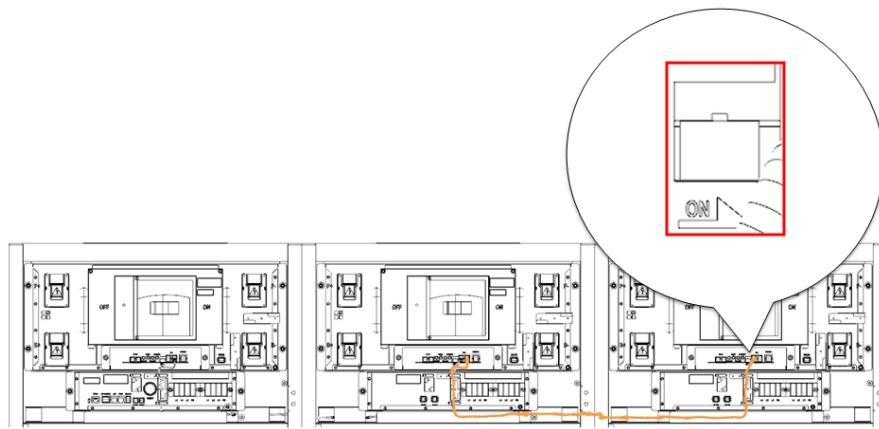

Figure 5-9: Termination resistor setting
2. Check the CAN connections to the SMU. For the rack with the SMPS Assembly Type A, one of the connections must be made to the SMPS Assembly. A termination resistor switch must be turned on in the rack that is farthest from the rack with SMPS Assembly Type A. Refer to Figure 5-9: Termination resistor setting.